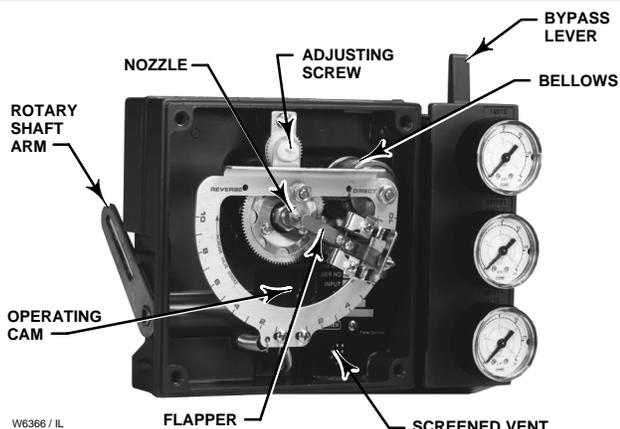

Figure 4. Type 3582 Pneumatic Valve Positioner Mechanism
- **Easy Positioner Adjustments**—With the cover removed, as shown in figure 4, zero and span adjustments are easily accessible and can be made with common hand tools.